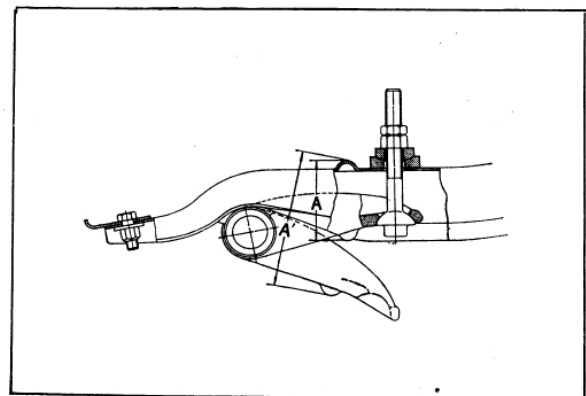

Fig. FA-33 Anchor arm installation
(2) Position lower link so that no clearance is between lower link and bumper rubber, and install spring anchor on torsion bar to obtain "A" dimension shown in Figure FA-33.
(3) Jack up spring anchor (to which anchor bolt is applied), tighten nut so that "A" dimension shown in Figure FA-33 meets the standard dimension, and secure lock nut.